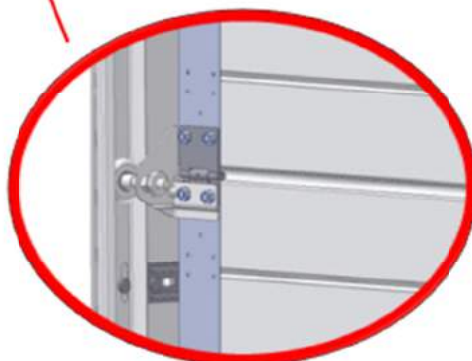

Figure 28: side roller carriers zoom
- A side roller holder (either ref. SG202LT or SG202RT; same side as the bottom bracket) on the top of an intermediate hinge ref. SG032GO; using 2 self-tapping screws 15 mm (ref. SG041P0) (See zoom of figure 28).
- Place a roller (ref. SG203T0) in the location provided by the roller holder (See figure 28).